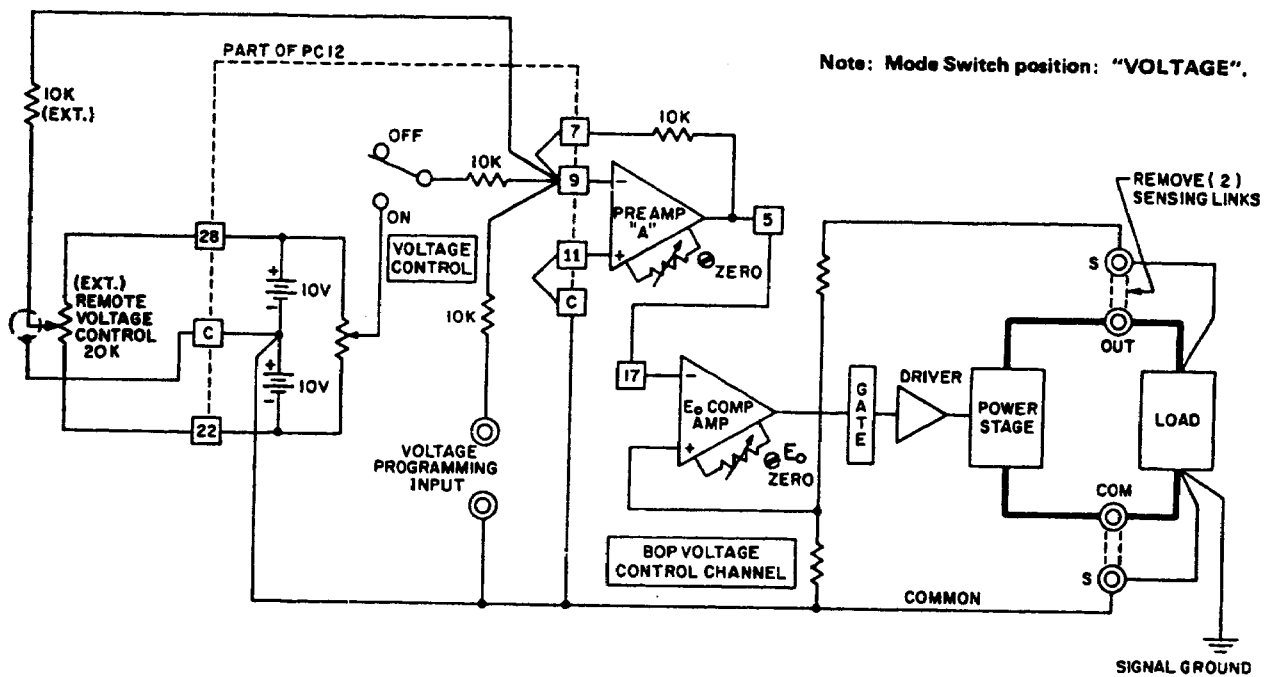

FIG. 3-4 REMOTE POTENTIOMETER CONTROL OF THE BOP D-C OUTPUT VOLTAGE
- 3-11 REMOTE D-C OUTPUT VOLTAGE CONTROL BY RESISTANCE.** As seen in FIG. 3-4, and as described in a previous paragraph (Paragraph 3-6) the BOP d-c output potential can be controlled within its specified range by means of the VOLTAGE CONTROL, with the VOLTAGE CONTROL SWITCH in the ON position. PREAMP "A" with the built-in feedback and input resistors, has a gain of one and the fixed gain of all BOP models is designed so that a d-c input signal of zero to ( $\pm$ )10 volt will control the BOP output through its specified range. In the local (front panel) control mode, the d-c control potential is applied via the VOLTAGE CONTROL. In the remote control mode, a similar control circuit, located external to the BOP is substituted for the internal control elements.
- 3-12 As shown in FIG. 3-4, this control method can readily be performed remotely, by setting the VOLTAGE CONTROL SWITCH to the OFF position and connecting an external REMOTE VOLTAGE CONTROL as indicated in FIG. 3-4.